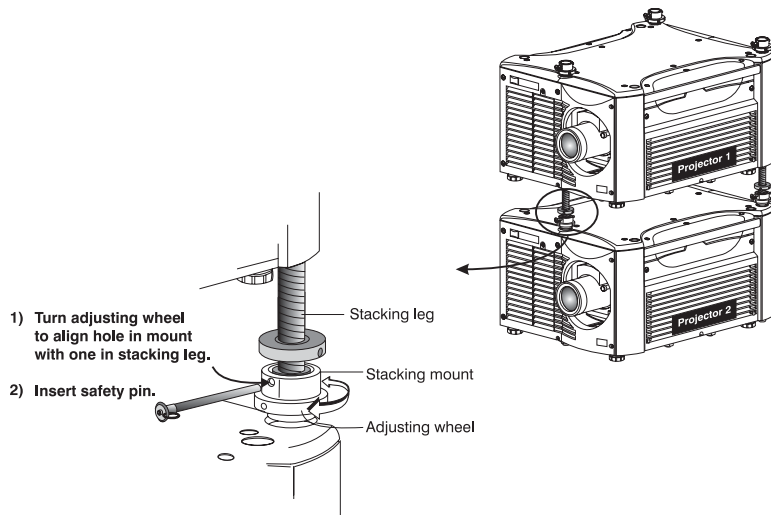

Figure 2.14. Align Holes in Mounts and Legs, and LOCK with Pin
On each stacking mount, turn the adjusting wheel slightly until the hole in the top portion of the mount lines up with the hole in the stacking leg (Figure 2.14).
At each of the (3) stacking points, insert the safety pin fully through the holes in the stacking mounts and stacking legs (Figure 2.14). Ensure that each pin is **fully inserted** to engage the safety lock and secure the projectors together. Failure to engage the safety lock could cause the projectors to separate and result in injury or death.
Before hoisting, firmly tighten the nuts on the (2) rear stacking legs (Figure 2.14). Or, if you are ready to align the projectors to one another, leave these nuts slightly loose until after the alignment.